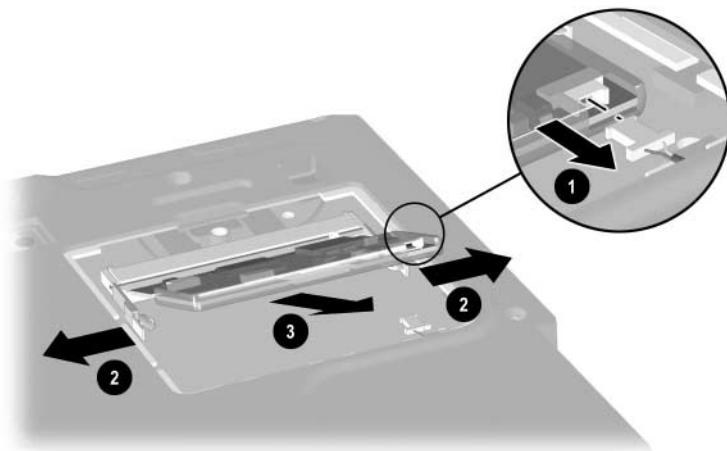

Figure 5-11. Removing a Mini PCI Communications Board
6. Disconnect the modem cable from the modem board ① (Figure 5-11).